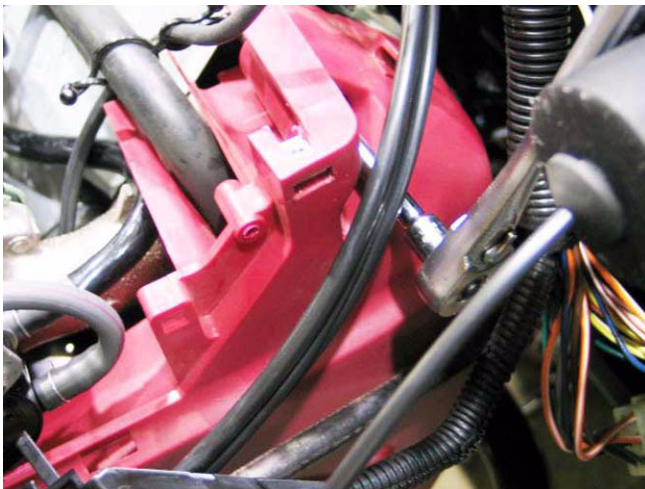

Figure 15.7
- 15.7. Remove the two screws that hold the top of the fan cover to the engine using a 10 mm wrench. Install one or two of the nuts that held the finger guard in place. Thread it on just far enough to keep the nut from falling off. See Figure 15.7.